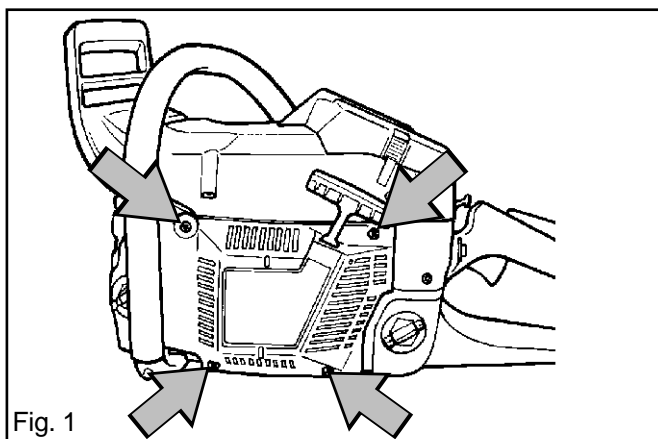

Fig. 1
1. Undo the four bolts that fasten the starter assembly to the crankcase and remove it. See fig. 1.
8. Refit the starter assembly onto the crankcase. Tighten the bolts to 4 Nm. See fig. 1.
2. Release the blue lead (A) (which connects to the stop switch) from the ignition module (B). See fig. 1.
3. Remove the HT lead (C) from the spark plug, release both leads from the cable guide (D) and lift out the cable guide. See fig. 1.
4. Undo the two M4-bolts and remove the ignition module (B). See fig. 1.